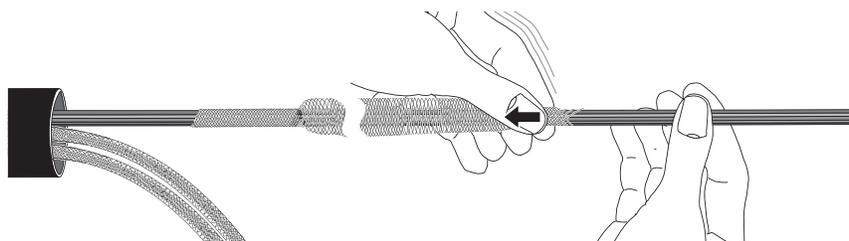

Figure 18
Step 4: Push the tube up to the cable sheath (Figure 18).